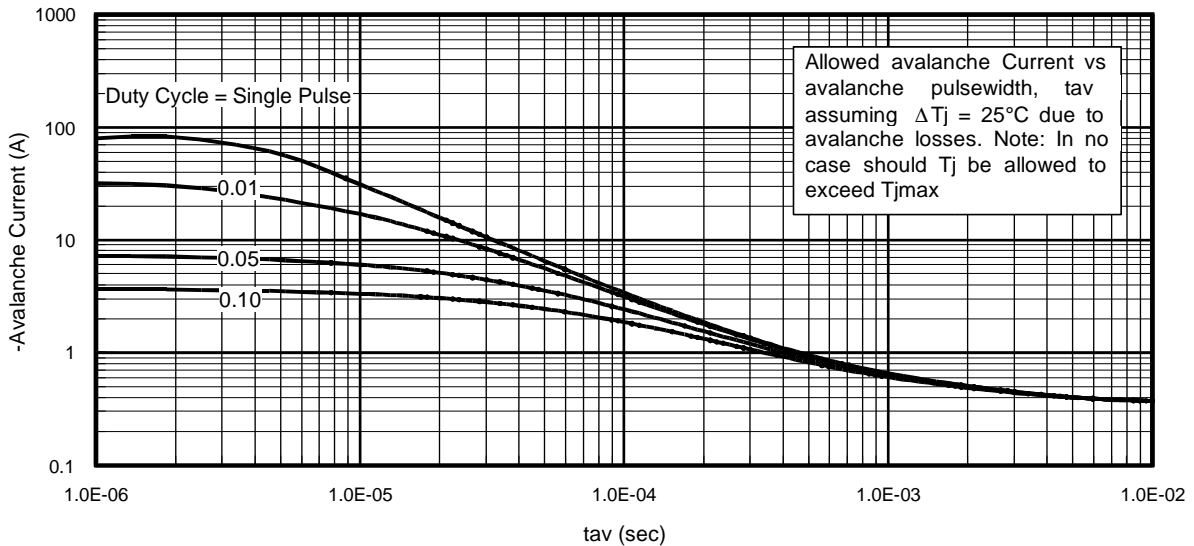

Fig 14. Typical Avalanche Current Vs. Pulsewidth
**Notes on Repetitive Avalanche Curves , Figures 14, 15:
7. ΔT = Allowable rise in junction temperature, not to exceed T_{jmax} (assumed as 25°C in Figure 14, 15).